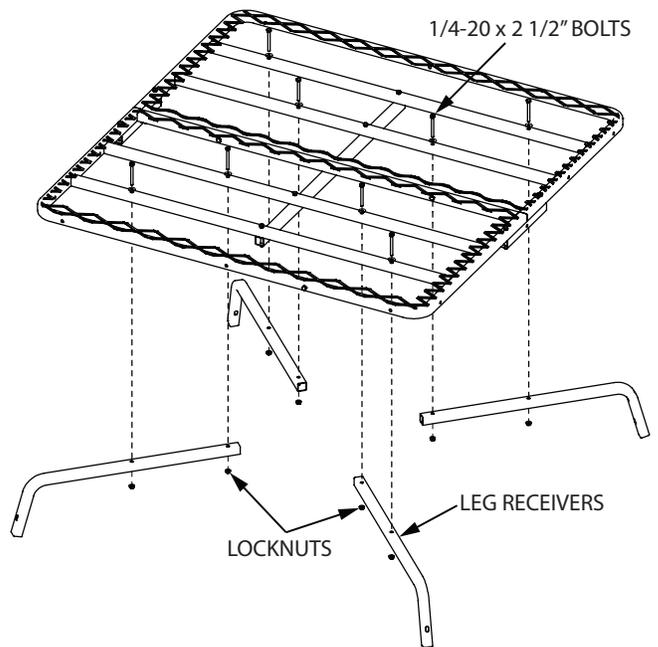

FIGURE 2
4. Attach (4) leg receivers (TWR25) to the bottom four corners of platform using (8) provided 1/4-20 x 2-1/2" bolts, locknuts and washers. **SEE FIGURE 2.**